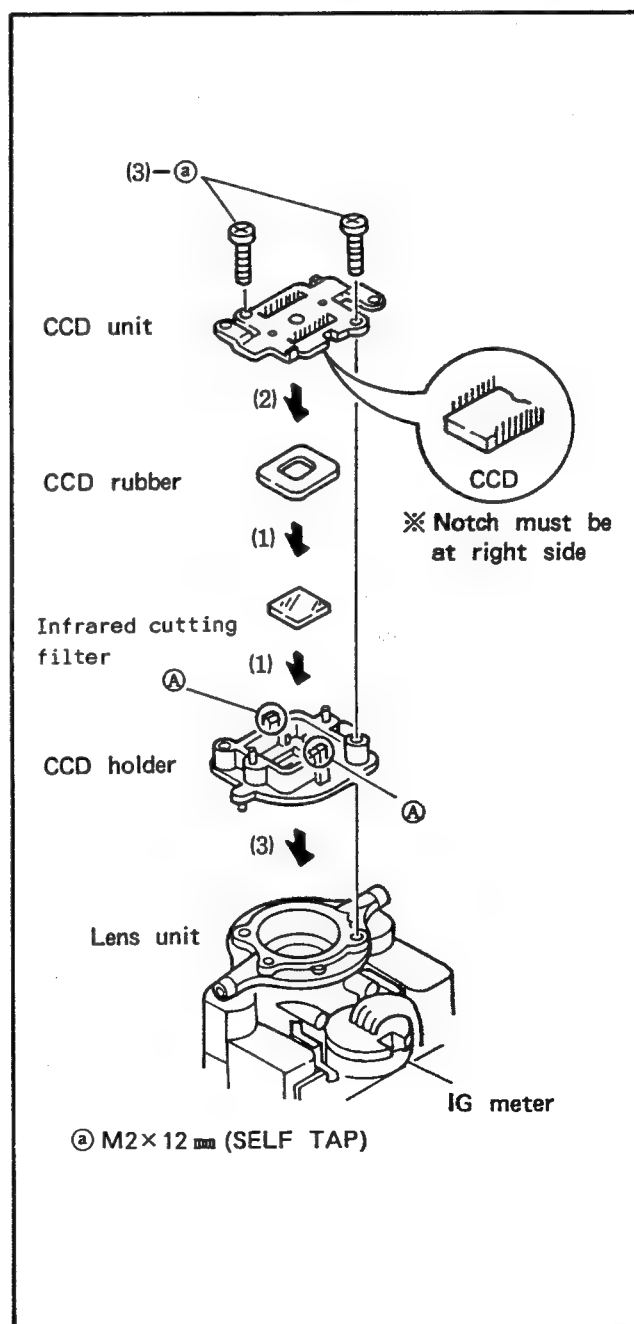

Fig. II-19
- (1) Install the infrared cutting filter and then the CCD rubber on the CCD holder.
- (2) Install the CCD unit on the CCD holder.
- \* Notes: 1. Check the directivity referring to the Fig. II-19.
2. Push the unit until the two hooks (A) are completely hooked.
- (3) Install the CCD holder on the lens unit, and fix it with two screw (a)s.
- \* Note: Check the directivity referring to the Fig. II-19.